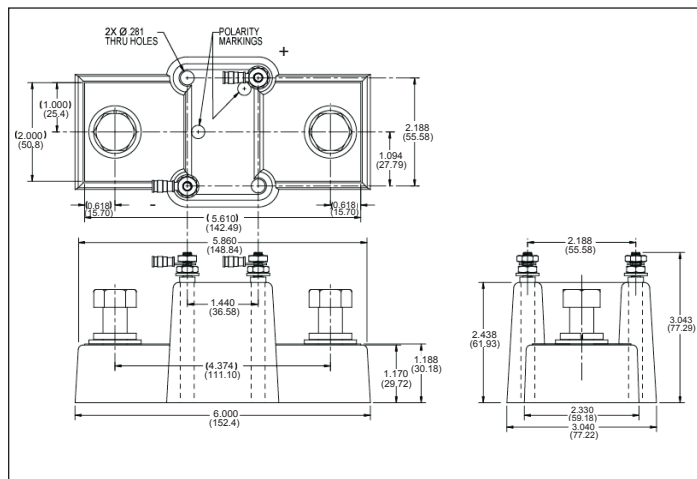

Figure 9. Neutral Sensor Dimensions (CTF080, CTF160, and CTF225).
- I_r - Continuous current setting.** - In accordance with standards requirements, the trip unit initiates a trip of the circuit breaker within two hours for an overload of 135% and will trip as a function of I²t for other currents. Continuous current values for each lettered (A-G) setting are indicated by the chart displayed on the left side of the trip unit label, and in Figure 9. The FDE210+ is designed to enter long delay pickup at 115% of the I_r setting. The response time is fixed at 10sec at 6x I_r current.
Ground fault trip units are supplied from the factory with pigtail lead connections for a neutral current sensor (white and grey wires). Two types of neutral current sensors are available, but must be ordered separately. The two types are as shown in Figures 9 and 10, standard neutral sensors (catalog numbers, CTF080, CTF160, and CTF225 for the respective frames of 80A, 160A, and 225A) and miniature neutral sensors (catalog numbers CTFD080, CTFD160, and CTFD225).
If the system neutral is grounded and phase to neutral loads are used, then the neutral current sensor (see Figure 9) must be used. It should be connected to the breaker. It has the same turns ratio as the phase current sensors in the trip unit sensors in the trip unit.